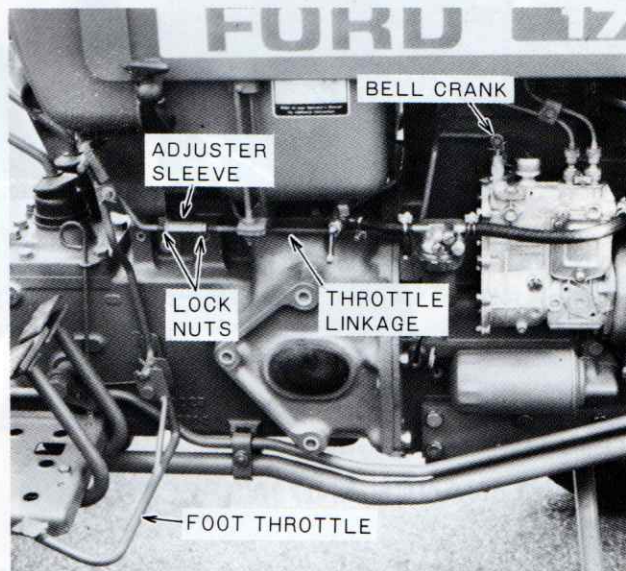

Figure 47 — Throttle Adjustment
1. Loosen the lock nuts, Figure 47.